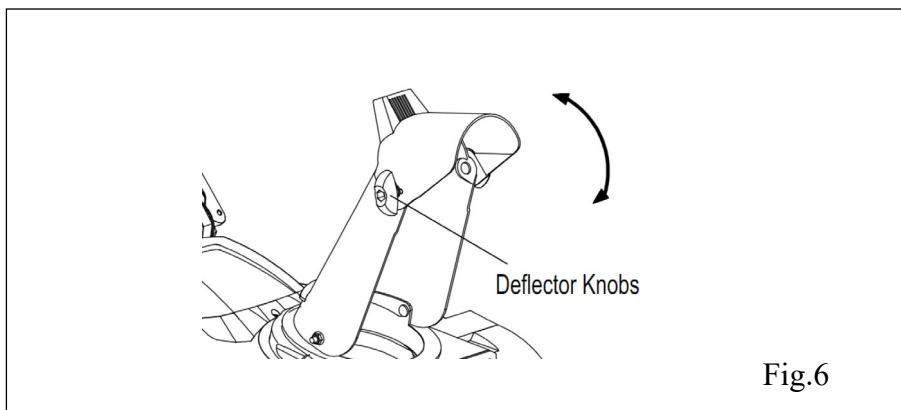

Fig.6
1. Loosen the knobs to raise or lower the deflector to the desired degree of snow you wish to throw. Tighten the knobs to secure the deflector. (Fig.6)